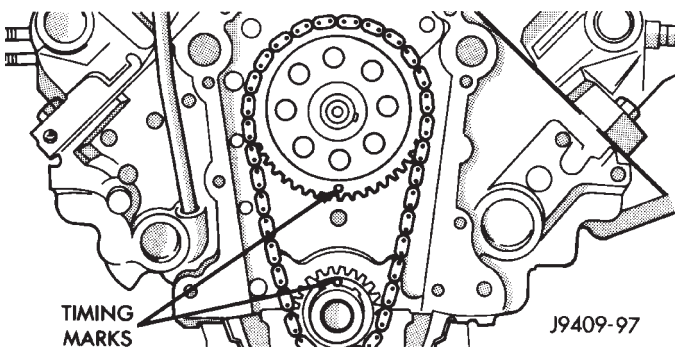

Fig. 41 Alignment of Timing Marks
(3) Hold tool in position with a distributor lock-plate bolt. This tool will restrict camshaft from being pushed in too far and prevent knocking out the welch plug in rear of cylinder block. **Tool should remain installed until the camshaft and crankshaft sprockets and timing chain have been installed.**
(4) Install camshaft thrust plate and chain oil tab. **Be sure tang enters lower right hole in thrust plate.** Tighten bolts to 24 N·m (210 in. lbs.) torque. Top edge of tab should be flat against thrust plate in order to catch oil for chain lubrication.
(5) Place both camshaft sprocket and crankshaft sprocket on the bench with timing marks on an exact imaginary center line through both camshaft and crankshaft bores.
(6) Place timing chain around both sprockets.
(7) Turn crankshaft and camshaft to line up with keyway location in crankshaft sprocket and in camshaft sprocket.
(8) Lift sprockets and chain (keep sprockets tight against the chain in position as described).
(9) Slide both sprockets evenly over their respective shafts and use a straightedge to check alignment of timing marks (Fig. 41).